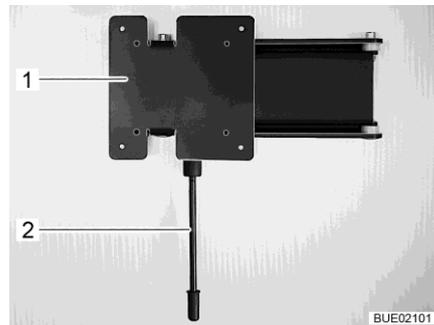

Fig. 91 Wall holder
- Positioning:** ■ Pull down the release lever (Fig. 91,1) and turn the holder (Fig. 91,2) with the flat screen to the desired position.